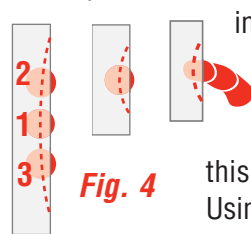

Fig. 4
*Fig. 2b shows the first score and break... when compared to fig. 4, the scrap in fig. 2b is in one piece. In fig. 4 two scores and two breaks are used to remove the outer scrap... the outside curve develops a burr and flare that must be removed. The break in fig. 2a is actually easier than the method in fig. 4.*
The scallop shapes of fig. 4 are often found in designs with leaves and flowers. Most breaking techniques leave burrs and flares on the